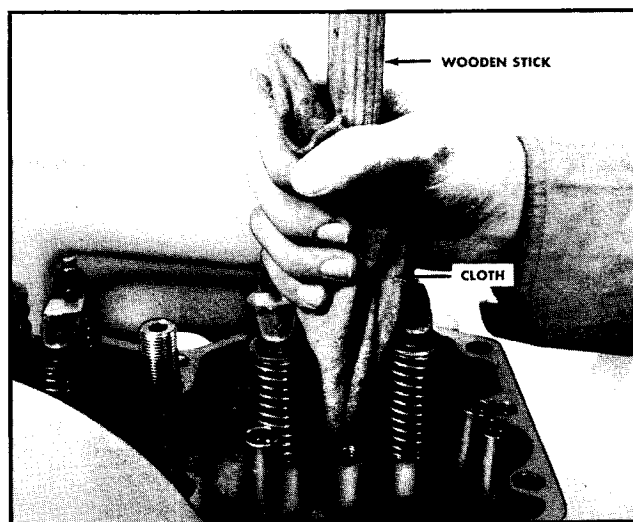

Fig. 4-19. Cleaning injector sleeve
2. Wrap a clean cloth around a wooden stick and clean-out the injector sleeve. The injector sleeves are made of copper and are closely machined to seal the injector cup. Never use a screw driver or any metal object for this operation. Fig. 4-19.